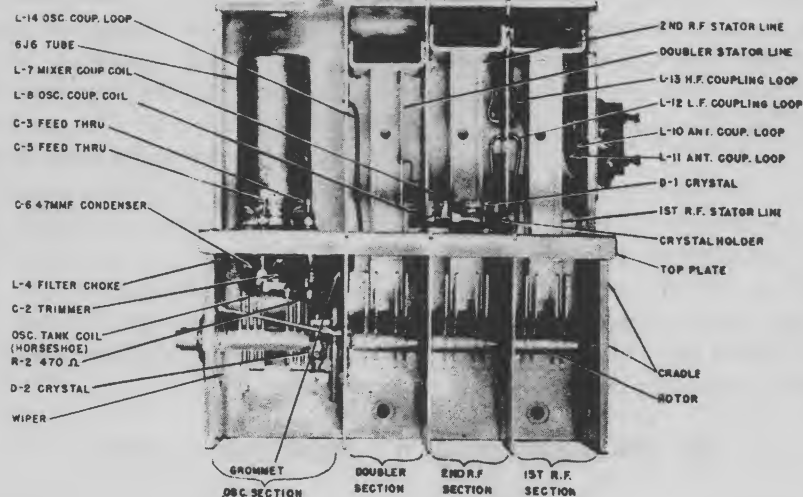

Fig. 9-14. Sylvania uhf tuner assembly.
*d. Rectangular Transmission-Line Resonator.* This is tuned by a variable capacitor across open end. The rectangular transmission line used in the Sylvania uhf tuner is another approach. The mechanical details of the three tuned lines used in this tuner may be seen from Fig. 9-14. The lines have inner and outer conductors like a coaxial line. However, the silver-plated conductors are rectangular. Moreover, the inner conductor is hollow and is not com-